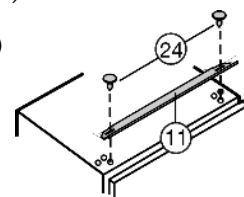

Fig. 15
- Screw Fig. 15 (11) the equalizer trim Fig. 15 (24) onto the top of the appliance through the oblong holes.
- ▶ Slide the equalizer trim *Fig. 15* (11) toward the handle side as far as it will go.